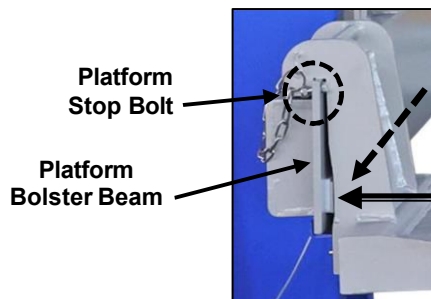

Fig. 17
- With lift fully lowered & wheel dollies locked into down position, *the platforms will automatically rise-up off the bolster beam*; remove the **platform stop bolts** at each end of bolster beam and carefully 'roll' each platform off the end of bolster beam to expose the backside of platform **Fig. 17.**